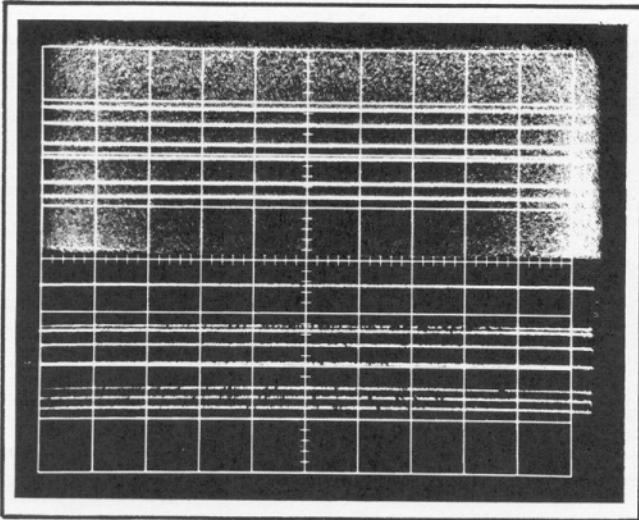

Fig. 5-25. Typical CRT display showing Upper Writing Limit on Upper screen and Writing Threshold on lower screen.
2. Carefully check the written lines for breaks or gaps of 0.025 inches or more. If no breaks or gaps are evident after 10 seconds (see Fig. 5-25), note the voltmeter reading, then adjust the Op Level control to reduce the operating level by 5 volts.
3. Carefully check the stored lines and background for trace spreading of about 0.025 inches or background fade-up. See Fig. 5-25. If no trace spreading or background fade-up is evident after 10 seconds, adjust the Op Level control to increase the operating level by 5 volts.